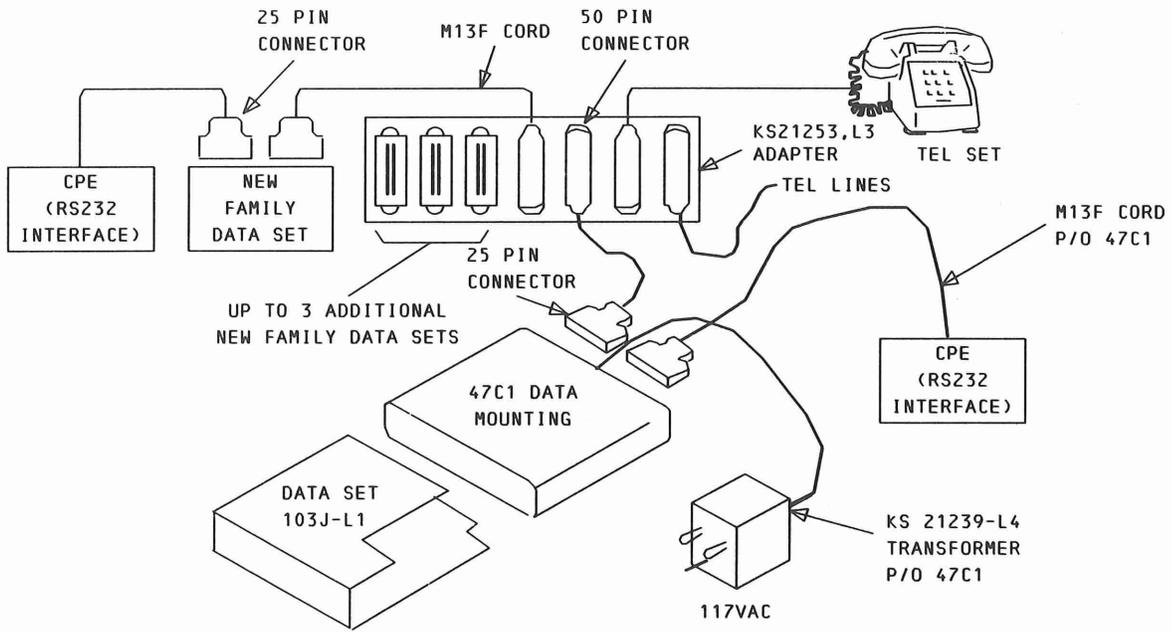

Fig. 5—Data Set 103J-L1 Sharing Telephone Set With Up to Four Other New Family Data Sets
- A maximum of five data sets in an individual data mounting sharing a single telephone set via a KS-21253-L3 adapter (Fig. 5).